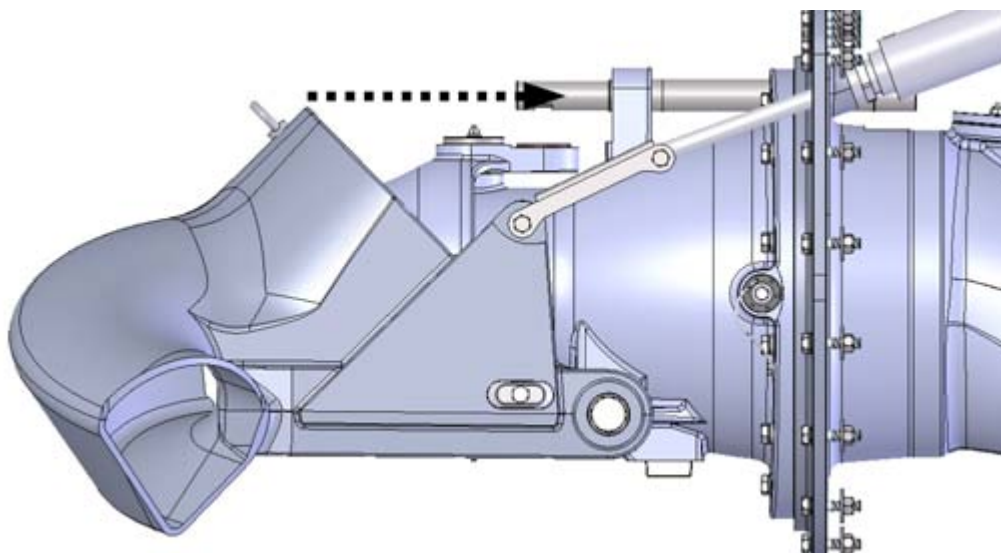

Figure 67. Removing the steering shaft
7. Remove the steering shaft by pulling it out (figure 67).